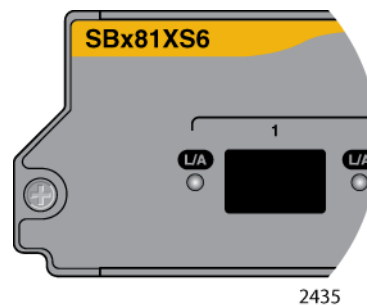

Figure 22. SFP+ Slot LEDs on the AT-SBx81XS6 Line Card
**LEDs** The AT-SBx81XS6 Line Card has one LED for each SFP+ slot. The LED is shown in Figure 22 and described in Table 11 on page 48.